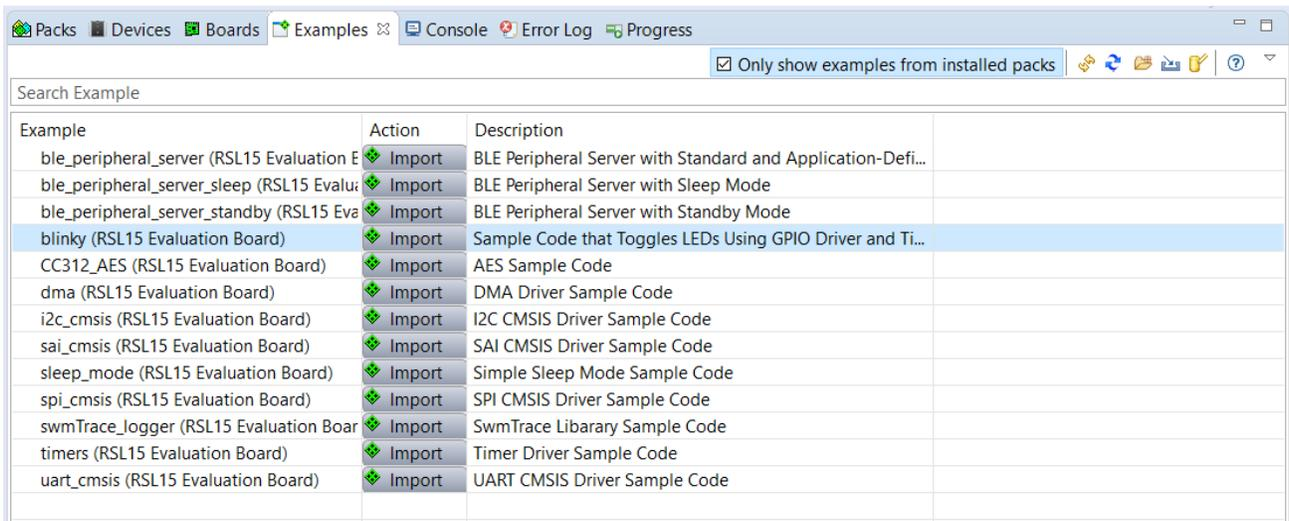

Figure 36. IAR Embedded Workbench CMSIS Manager: Examples Tab
2. Choose the example project called **blink**, and click the **Copy** button to import it into your workspace (see the "IAR Embedded Workbench CMSIS Manager: Examples Tab" figure (Figure 36)). Choose a destination folder for a copy of the sample code.